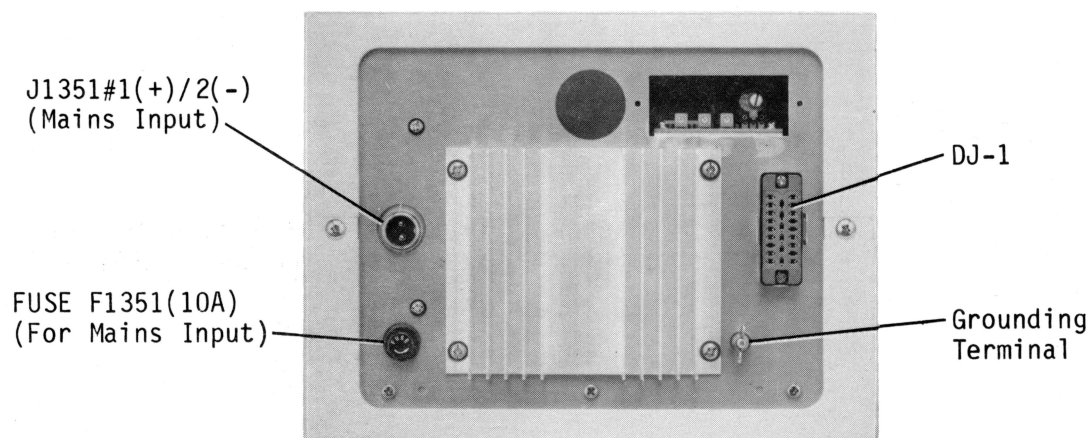

Fig.4-4 DISPLAY UNIT REAR VIEW
- 1) Check if the main fuse F1351 is blown. See Fig.4-4. If it is blown, replace it with a new one.